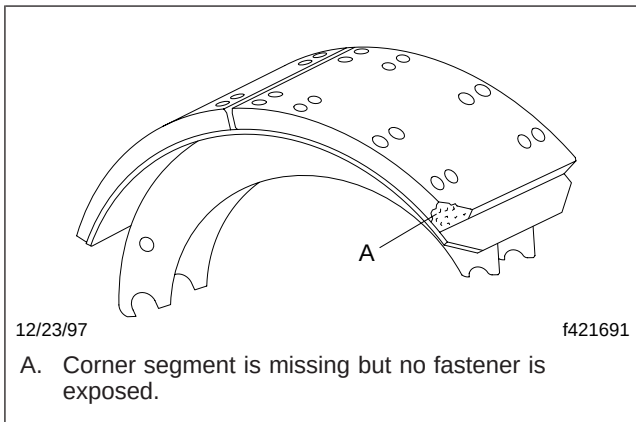

Fig. 5, Portions of the Brake Lining Missing
- Corner portions of the lining are missing with no fastener exposed. See Fig. 5.